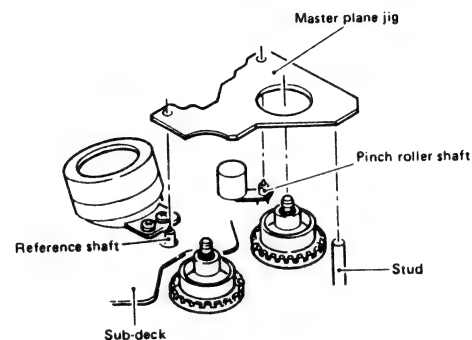

Fig. 2-20 Master plane jig setting
2. As shown in Fig. 2-20, position the master plane jig with respect to the reference shaft, pinch roller shaft and the stud.